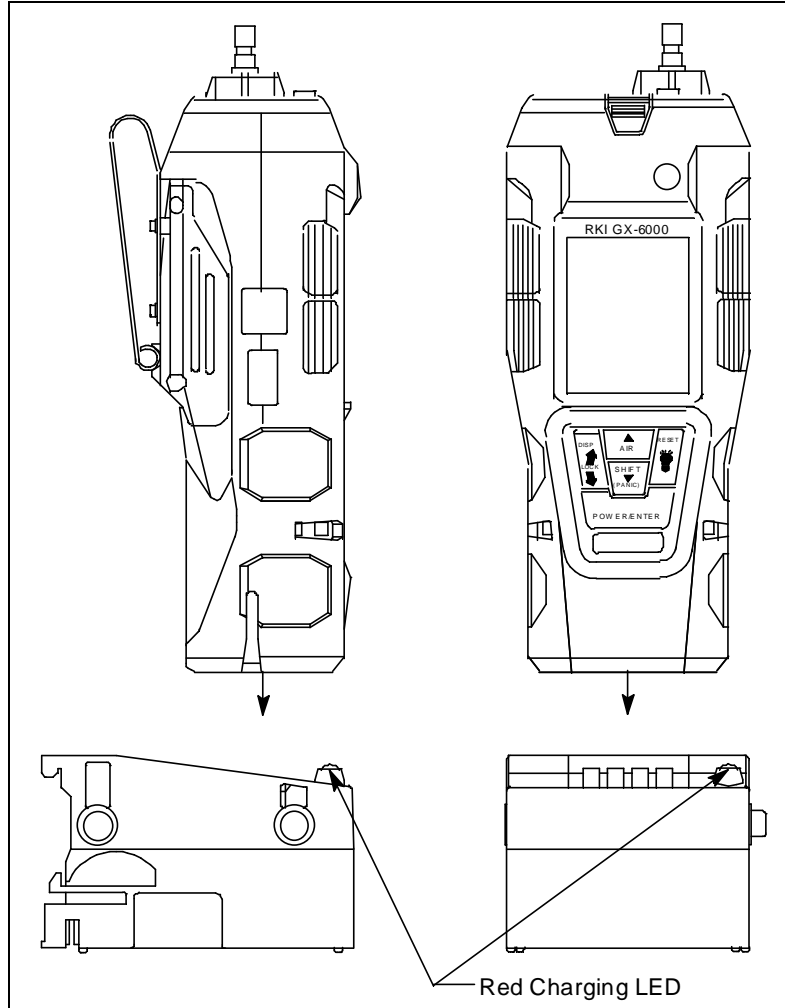

Figure 18: Putting the GX-6000 into the Charging Station
- Place the GX-6000 into the battery charging station as shown in Figure 18 below so that the metal contacts on the back of the unit come into contact with the metal contacts on the back of the holder in the charging station. When proper contact has been made, the red LED on the charging station will turn on.